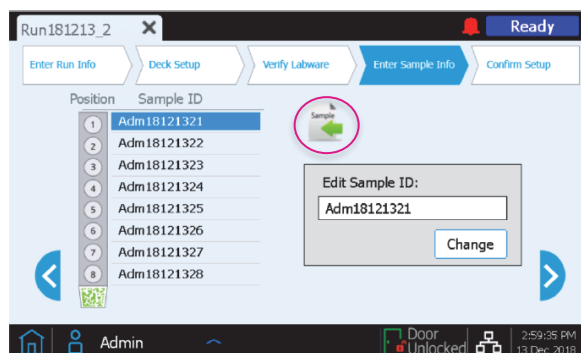

Figure 18. *Edit Sample Info* screen of the Magnis NGS Prep System; the Load samples button is highlighted with a circle.
- When setting up the run, on the *Enter Sample Info* screen, press the Load samples button (highlighted with a circle in Figure 18).